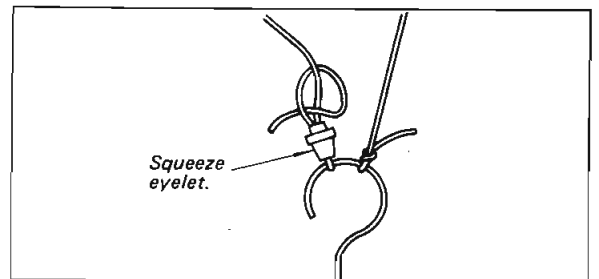
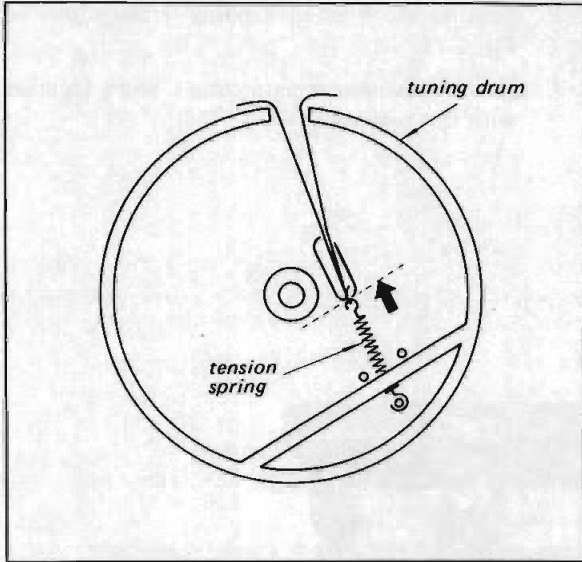

Fig. 2-8. Dial cord finish
Fig. 2-9. End of dial cord stringing
3. At the finish point, pass the doubled end of the cord through the eyelet and tighten the cord and squeeze the eyelet so that the spring is under tension (See Fig. 2-8).
**Note:** The end of spring should be near the center of tuning drum as shown in Fig. 2-9. Make two knots in the cord to keep it from slipping out of the eyelet (See Fig. 2-8).